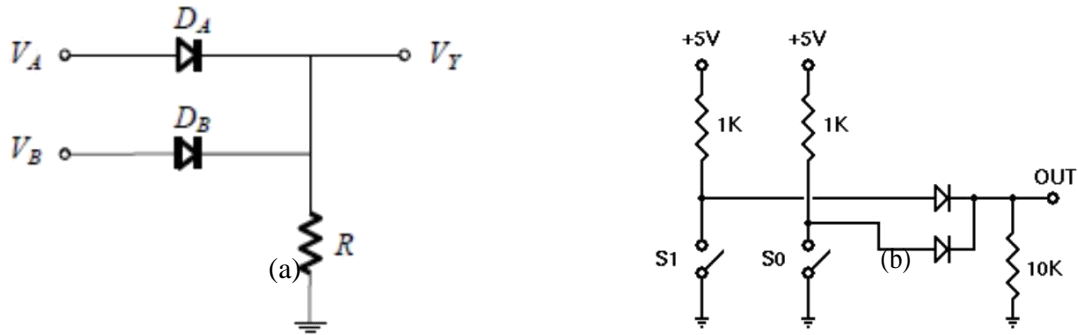

Fig.1 DL-OR Gate
1. We have constructed the DL-OR gate on the breadboard as shown in Fig. 1. Then drew a Truth Table similar to the one provided and filled in our experimental results.